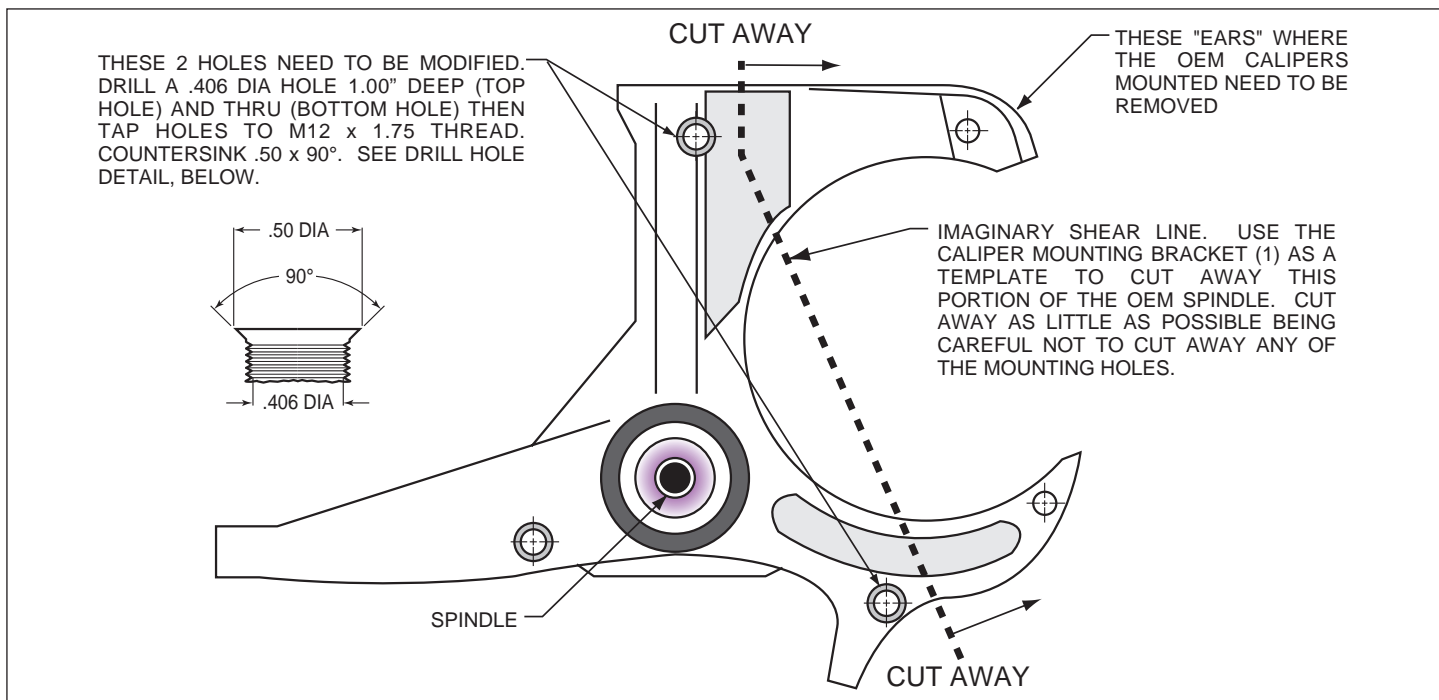
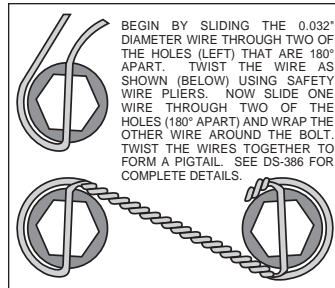

Figure 1. Steering Arm / Spindle Modifications
Figure 4. Safety Wire Diagram
NOTE: These modifications should be performed by a qualified machinist and completed before assembly of the Wilwood disc brake kit begins. Refer to Figure 1. Only one view of the steering arm/spindle is shown, but the modifications need to be performed on both steering arm/spindles.
The two OEM holes that will be used to mount the caliper mounting bracket (1) need to be modified. Drill a .406 diameter hole, 1.00" deep (top hole), and thru (bottom hole), Figure 1, then tap holes to M12 x 1.75 thread. Countersink the holes to .50 x 90°. The "ears" that protrude to form a "C" shape need to be removed to facilitate the installation of the Wilwood kit. Using the bracket as a template, mark two cut marks on the steering arm. Remove as little as necessary from the "C" shape, being careful not to cut away any of the mounting holes required to bolt on the bracket.
- Orient the rotor (9) and the hat (10) as shown in Figure 1 and Photo 4. Attach rotor to hat using bolts (11) and washers (12). Using an alternating sequence, apply red *Loctite*® 271 to the threads and torque bolts to 155 **in-lb**. For an added measure of security, the bolts may be safety wired using standard 0.032 inch diameter stainless steel safety wire as shown in Figure 4. Refer to Wilwood's data sheet DS-386 (available at www.wilwood.com/Pdf/DataSheets/ds386.pdf) for complete safety wire installation instructions.
- Pack the small outer bearing cone (13) with high temperature disc brake bearing grease and install into hub (6). Slide the hub assembly onto the spindle. Secure using spindle washer (14) and OEM spindle nut, Photo 5. Adjust bearings per OEM specifications. Install saved OEM nut lock (if any) and a new cotter pin (not included).
- NOTE:** This kit contains distinct right and left hand calipers that must be mounted in a specific direction, as described below. Lubricate the caliper mounting studs (21) with lightweight oil. Initially place two .035" thick shims (22) on each stud between the caliper and the bracket, as shown in Figure 1 and Photo 7. Mount the caliper (18) onto the bracket (1) using lock nuts (19) and washers (20), Figure 1. Ensure that the caliper is mounted so the largest pistons are at the rotor exit end of the caliper, in relation to the direction of rotor rotation. Temporarily tighten the lock nuts and view the rotor through the top opening of the caliper. The rotor should be centered in the caliper, Photo 8. If not, adjust by adding or subtracting shims (4) between the bracket and the upright. Always use the same amount of shims on each of the two mounting bolts. Once the caliper alignment is correct, remove the bracket mounting bolts one at a time, apply red *Loctite*® 271 to the threads, and torque to 60 ft-lb.